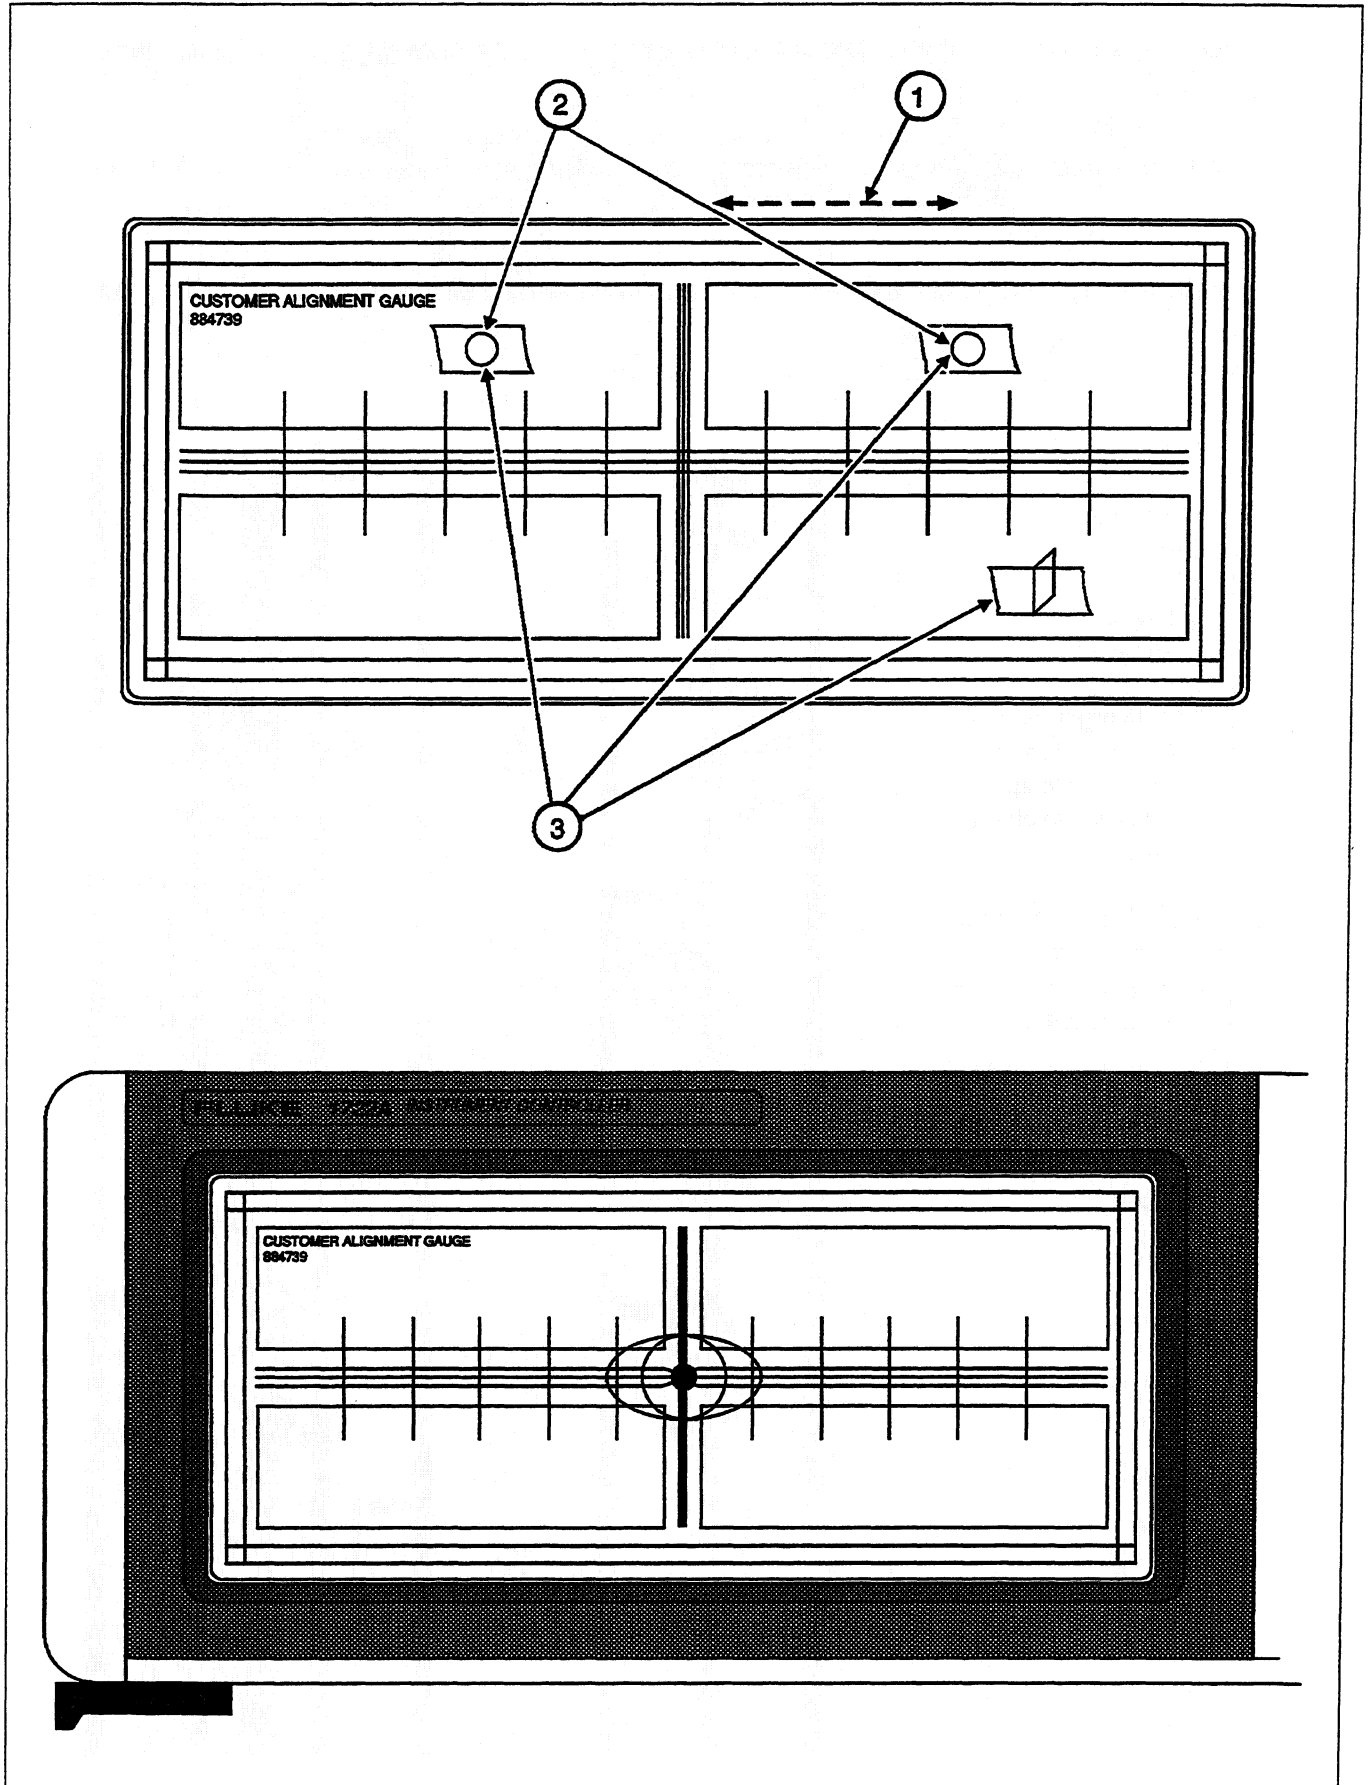

Figure 3-19. Alignment Gauge
3. Referring to Figure 3-19, modify the Alignment Gauge using the following procedure:
- d. As shown in Figure 3-19, place a third piece of tape on an empty part of the gauge. Use this tape as a handle when removing the gauge.